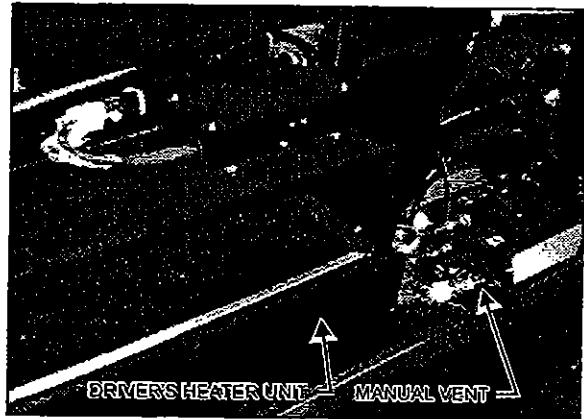

Figure 31: Driver's HVAC Unit
4. From inside of vehicle, open the manual vent on the coolant inlet line near the driver's unit (Fig. 31) to ensure an efficient draining.
Whenever the heating system has been drained and refilled, or the system has run low on coolant and coolant has been added, it is necessary to bleed air from heating system. Locate the manual vents illustrated in Figures 31 and 32, and open them momentarily until no air escapes from the lines.